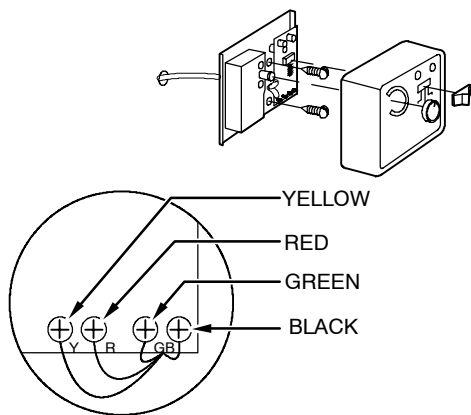
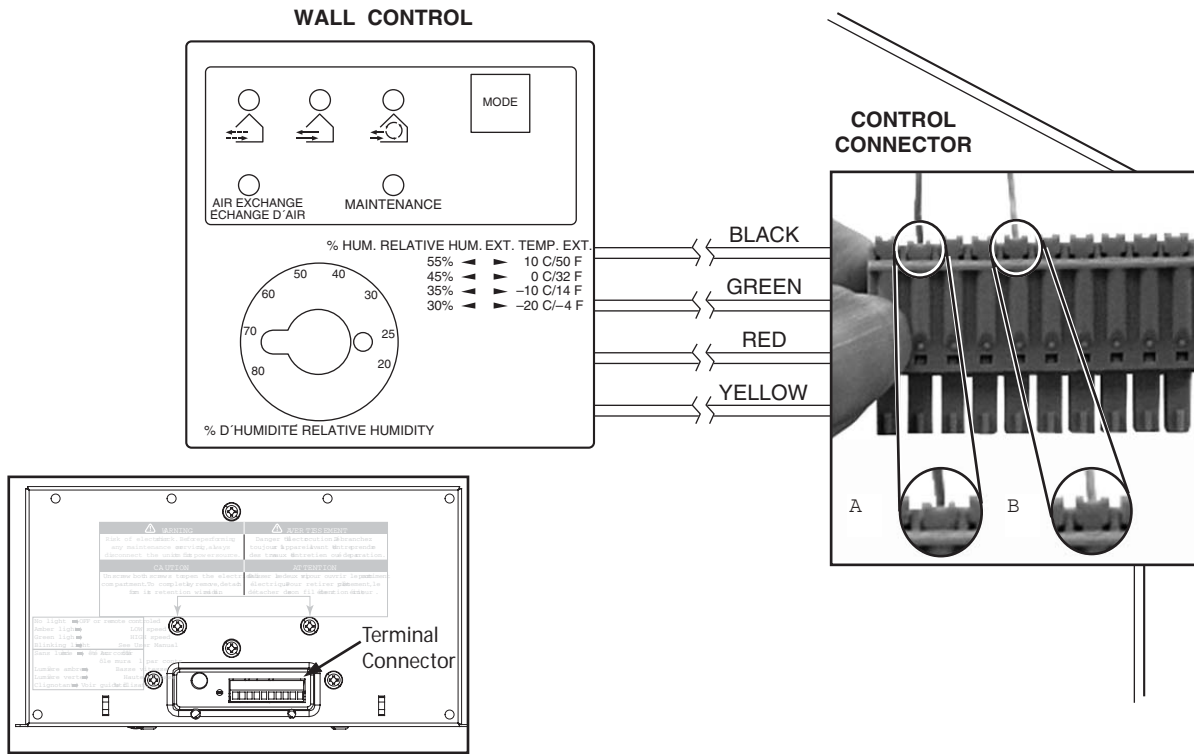

Fig. 8 – Typical Wall Control
Fig. 9 – Control Connector
9. See Fig. 9 for terminal connector block for wiring wall and timer controls.
Remove top cover assembly from wall control and pass thermostat wire through hole located on back of control before attaching to wall. Connect Y, R, G, and B (yellow, red, green, and black) between wall control and ERV/HRV connector following color code (See Fig. 8 and 9). Replace top cover assembly. In Fig 9, item A shows a correctly inserted wire, item B shows an incorrectly inserted wire.
The ERV/HRV circuit board, wall control, and accessories operate on 12vdc. See Wall Control section, item Wiring and Fig. 8 and 9 for more information.